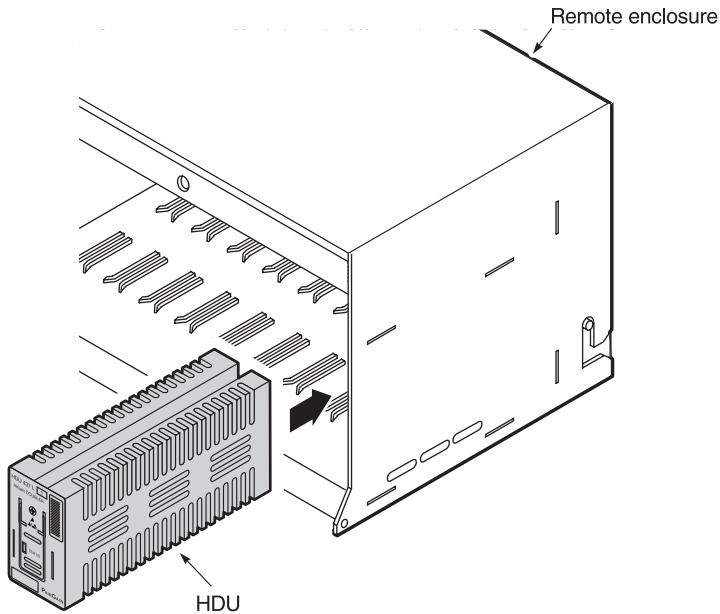

Figure 3. *Installing the HDU-437 and HDU-439 in a Remote Enclosure*
- 1 Slide the doubler into the card guides for the desired slot (see Figure 3 on page 10).